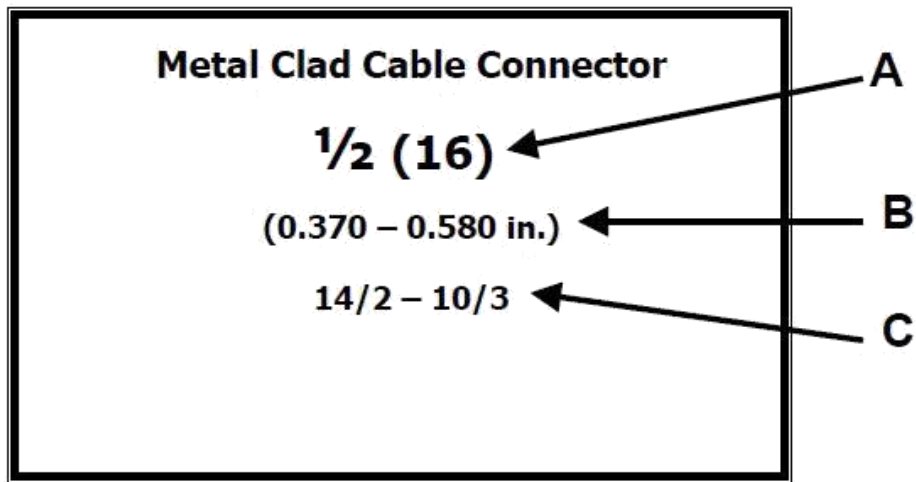

Figure 1
Trade Size (Metric Designator) example: ½ (16) [See A of Figure 1.]
Diameter Range example: 0.370 – 0.580 in. [See B of Figure 1.]
Conductor Range example: 14/2 – 10/3 [See C of Figure 1.]